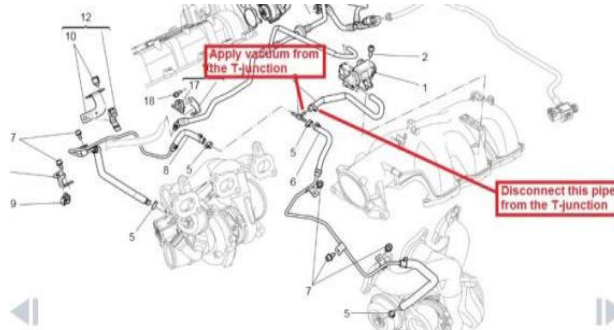

Figure 2 – Vacuum pump positioning
- 5) Disconnect the wastegate vacuum system from the point shown in figure 2 and check using a vacuum pump (for ease of access install the pump after the output of the wastegate modulator):